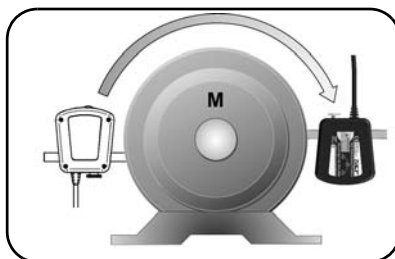

*Fig. 17. Adjust to the 9 o'clock position*
- a) Adjust the measuring units to the 9 o'clock position with the aid of the spirit levels (fig. 17).